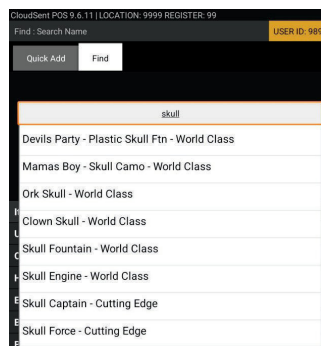

Figure 54
4. From the list of results, carefully select the correct item by tapping the green Select button (Figures 54 & 55).